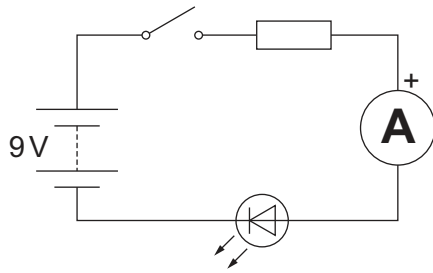

Figure 7.1
- 7 Figure 7.1 shows an ammeter connected in a circuit.